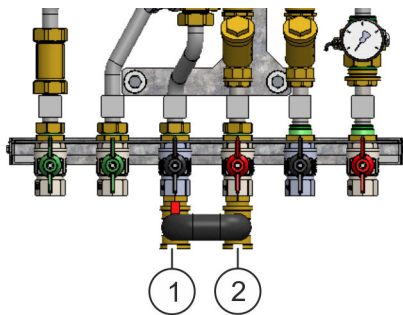

Fig. 26: Heat supply flow and return lines
1. ➔ Connect the heating return main supply line to the primary connection for the heat supply return line (Fig. 26/1) and tighten it by hand.
2. ➔ Connect the heating flow main supply line to the primary connection for the heat supply flow line (Fig. 26/2) and tighten it by hand.